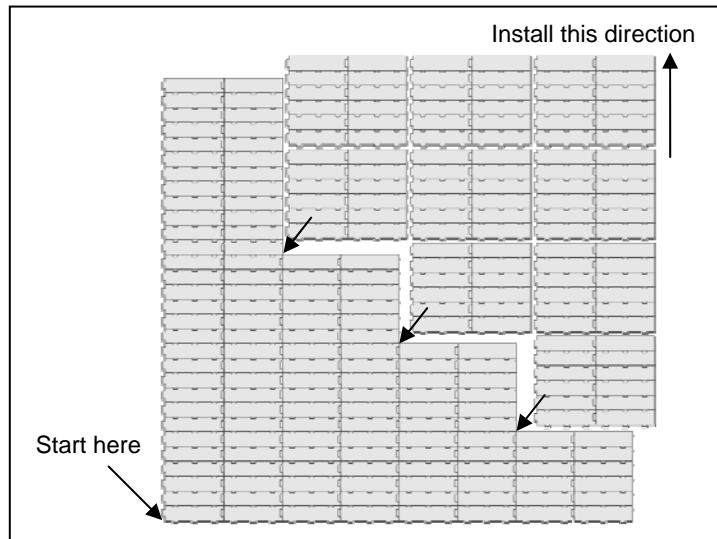
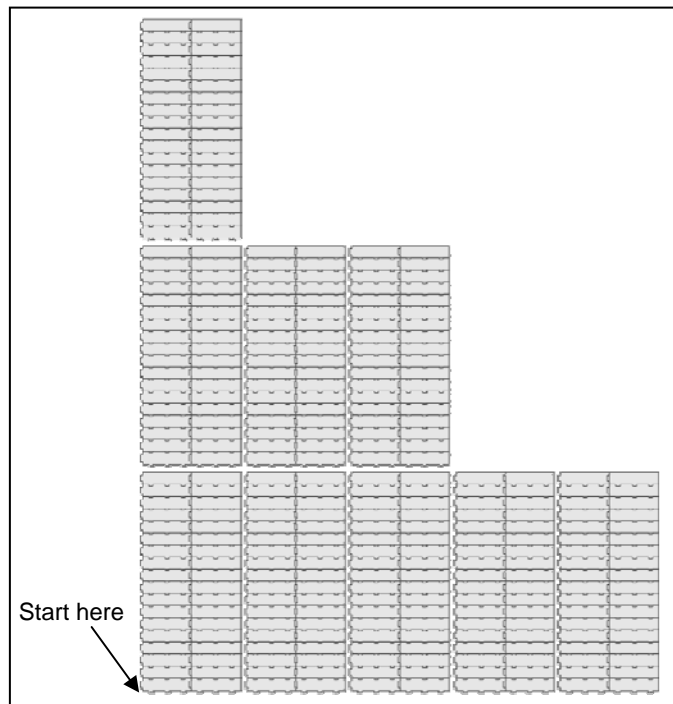

Figure 4
Figure 5
2. The tiles may be installed in a stair-step fashion to allow them to acclimate as the installation proceeds (see Figure 4).
2. Establish a starting point for the installation. Roll out the first rolls of flooring, covering the full length of the event flooring area to create a column. (See Figure 5). Make sure all rolls are laid out squared to the dry lines and the locks are facing in the same direction (see Figure 4).